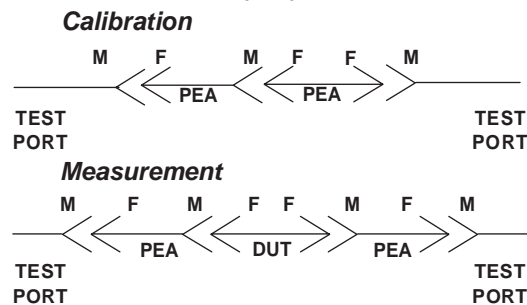

Figure 7-4. Using Phase-Equal Insertables
- ❑ It provides a simple solution to measuring non-insertable devices (e.g., a filter with K female input and output connectors), by merely swapping PEAs after calibration. See Figure 7-4.